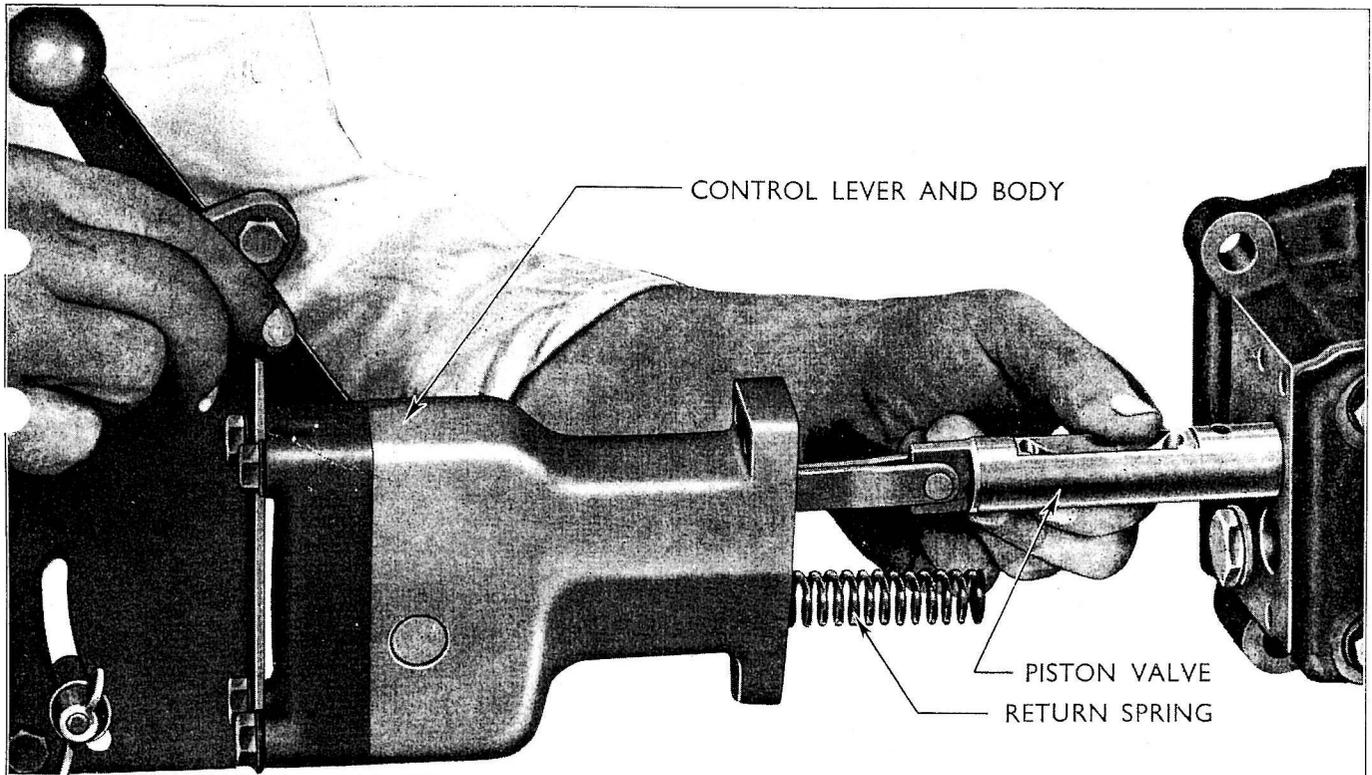

Fig. 191
- 4 Slide the cam roller into position so that it engages the cam and locate the lever return spring (see Fig. 191).